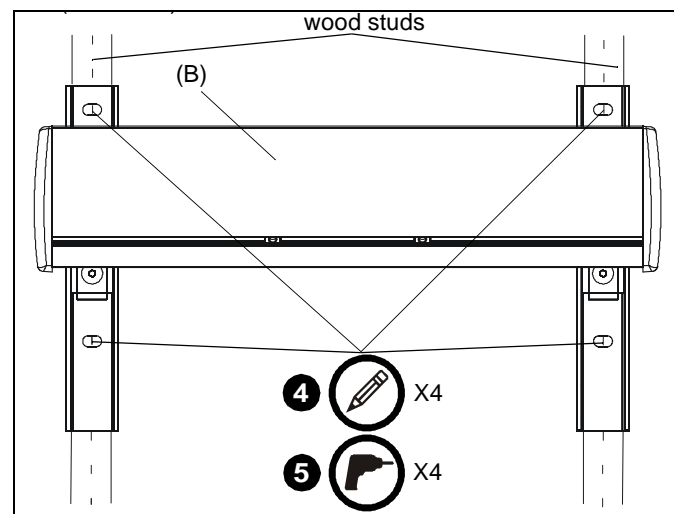

Figure 3
3. Line up inner four holes on mounting bracket (B) with center of studs at desired mounting location. (See Figure 3)
4. Using mounting bracket (B) as a template, mark four holes at the holes in bracket. (See Figure 3)
5. Drill four 15/64" holes at marked locations in wall. (See Figure 3)